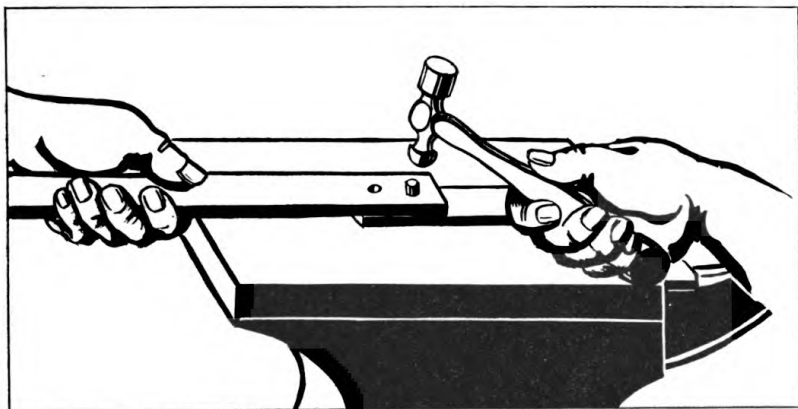

FIGURE 71.—Method of driving rivets.
b. Insert the rivet in the hole and place it *head down* on a solid surface, such as an anvil or a riveting block, as shown in figure 71.